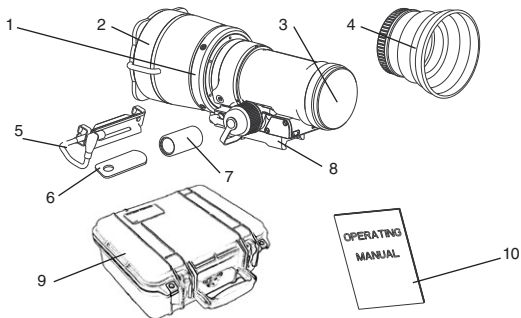
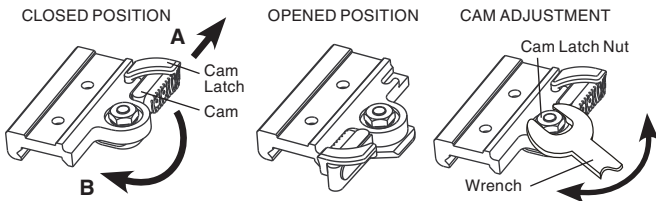

Figure 1-1. PS-27 Standard Components
Figure 2-4. Quick Release Mount
The PS-27 standard components are shown in Figure 1-1 and presented in Table 1-6.
- A.** Take off the output lens cap (see figure 1-1) and put it into the storage case.
- C. To open the sight quick release mount , slide the cam latch forward (arrow A, Figure 2-4) and turn the cam backward (arrow B).
- G. The quick release mount may be adjusted to eliminate excessive play when mounted on the rail by using the provided wrench (see figure 1-1) to increase/decrease the cam latch nut. (see figure 2-4)